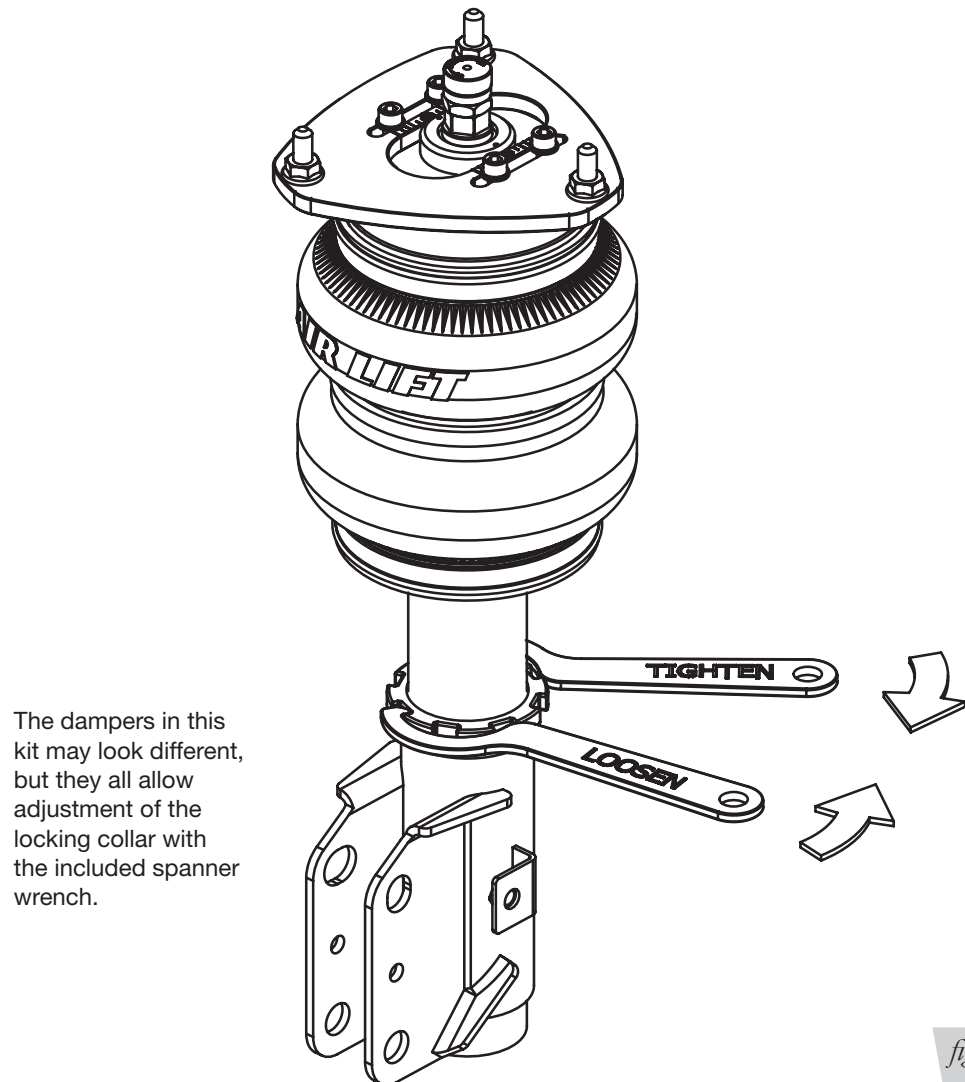

fig. F.3
3. Using the supplied spanner wrench, loosen the locking collar (Fig. F.3).